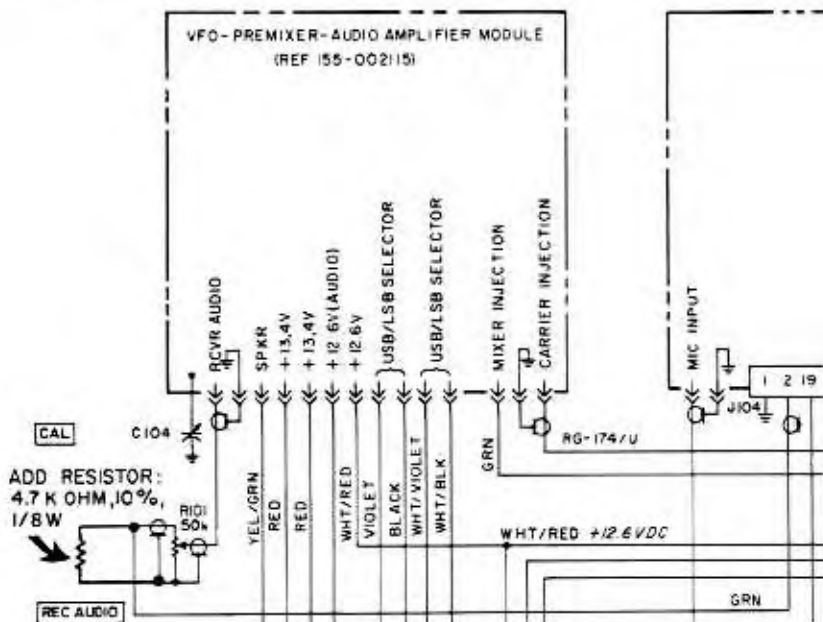

Figure 1. Partial Schematic Diagram of FPM-300.
2. Connect a 4.7 k ohm, 10%, 1/8 W resistor across the receive audio potentiometer (R101). Refer to figure 1 for schematic diagram.